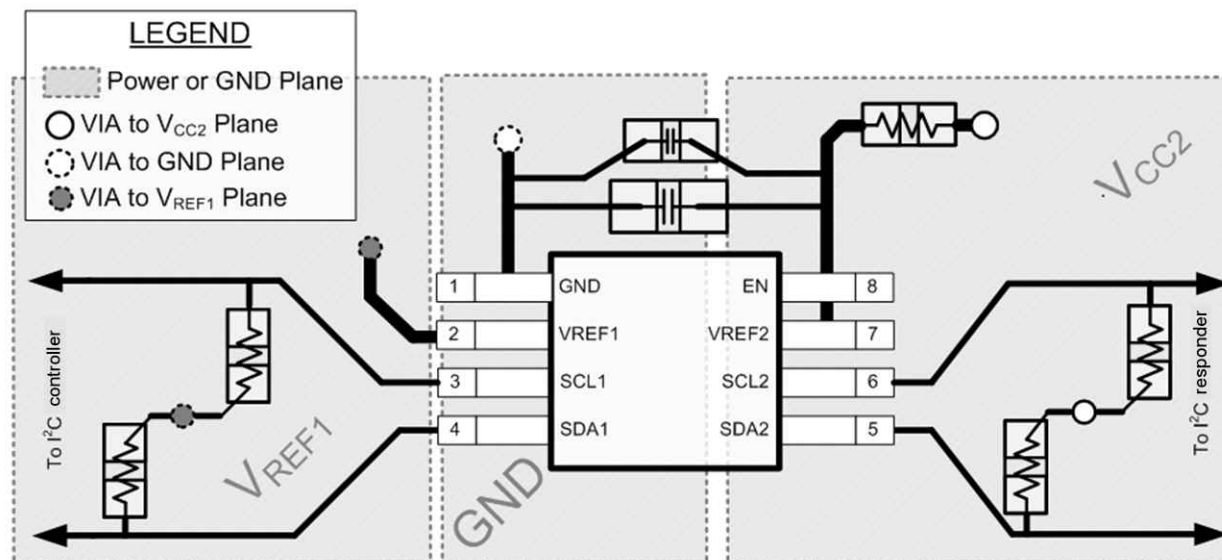

図 9-8. Layout Example
In all PCB layouts, it is a best practice to avoid right angles in signal traces, to fan out signal traces away from each other on leaving the vicinity of an integrated circuit (IC), and to use thicker trace widths to carry higher amounts of current that commonly pass through power and ground traces. The 100-pF filter capacitor should be placed as close to V_{REF2} as possible. A larger decoupling capacitor can also be used, but a longer time constant of two capacitors and the 200-kΩ resistor results in longer turnon and turnoff times for the TCA39306 device. These best practices are shown in FIG 9-8.
For the layout example provided in FIG 9-8, it would be possible to fabricate a PCB with only two layers by using the top layer for signal routing and the bottom layer as a split plane for power (V_{CC}) and ground (GND). However, a four-layer board is preferable for boards with higher-density signal routing. On a four-layer PCB, it is common to route signals on the top and bottom layer, dedicate one internal layer to a ground plane, and dedicate the other internal layer to a power plane. In a board layout using planes or split planes for power and ground, vias are placed directly next to the surface-mount component pad, which must attach to V_{CC} or GND, and the via is connected electrically to the internal layer or the other side of the board. Vias are also used when a signal trace must be routed to the opposite side of the board, but this technique is not demonstrated in FIG 9-8.